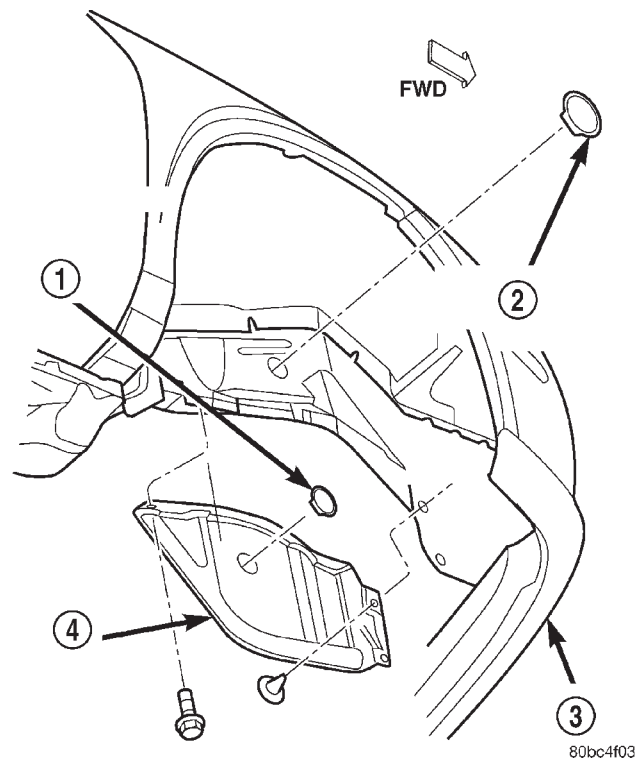

Fig. 20 Engine Mount Bolt Access Plug
(1) Remove upper and lower torque struts. Refer to procedure in this section.
(2) Remove power steering/air conditioning belt. Refer to Group 7, Cooling System, Accessory Drive Belts for procedure.
(3) Support engine with a suitable jack.
(4) Remove engine mount through bolt access plug (Fig. 20)
(3) Install mount bolt access plug (Fig. 20).
(4) Remove support from under engine.
(5) Install power steering/air conditioning belt. Refer to Group 7, Cooling System, Accessory Drive Belts for procedure.
(6) Install upper and lower torque struts. Refer to procedure in this section.